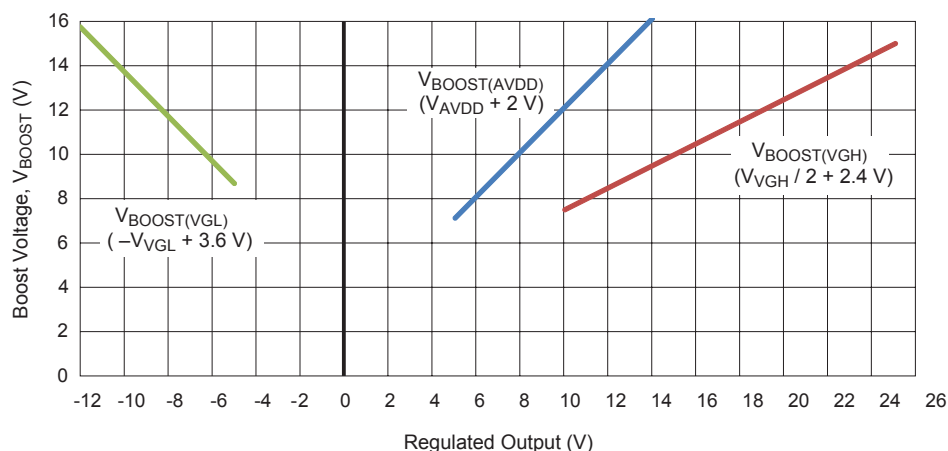

Figure 5. Boost voltage requirement with respect to VGL, AVDD, and VGH
The A8601 contains an integrated DMOS switch and PWM controller to drive a boost converter. The input voltage, V_{VIN} , (5 V nominal) is boosted to an intermediate voltage, V_{OUT} , which is the lowest voltage required to keep all outputs within regulation. That is, the effective boost voltage is the highest of the boost requirement of the individual regulators, as illustrated in figure 5.
- The OVP threshold, $V_{SW(OVP)}$, is internally set at approximately 19 V typical. Under normal operating conditions, the boost voltage should always be lower than 16 V (as shown in figure 5), so only in the event of a fault will OVP be tripped (for example: output diode open, or wrong sense resistor values).